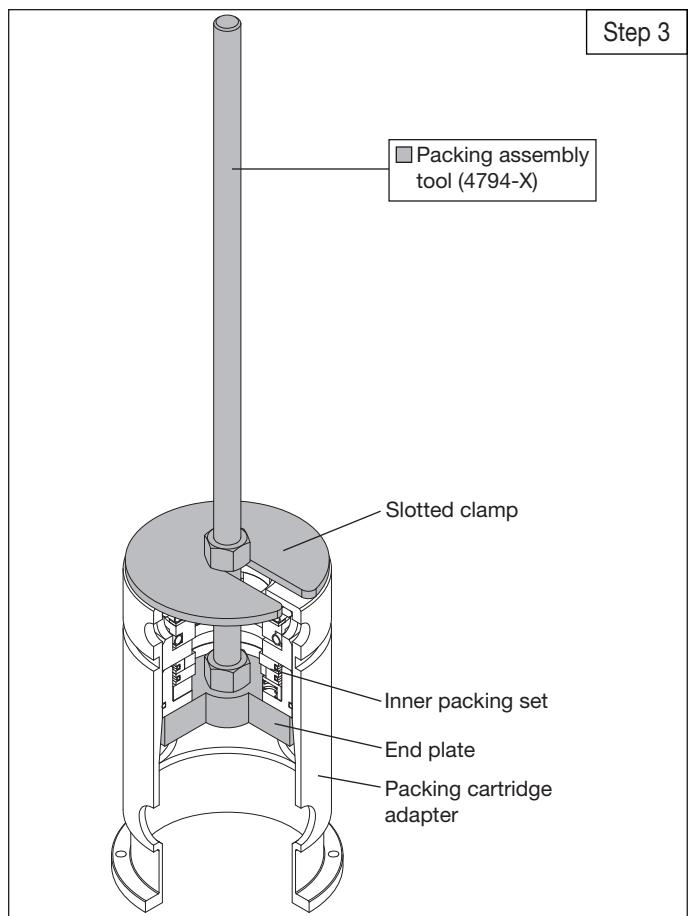

Figure 5.6E : Packing assembly
- d. Tighten the nut on the rod of the tool until the inner packing set is fully drawn into the packing cartridge adapter. See figure 5.6E.